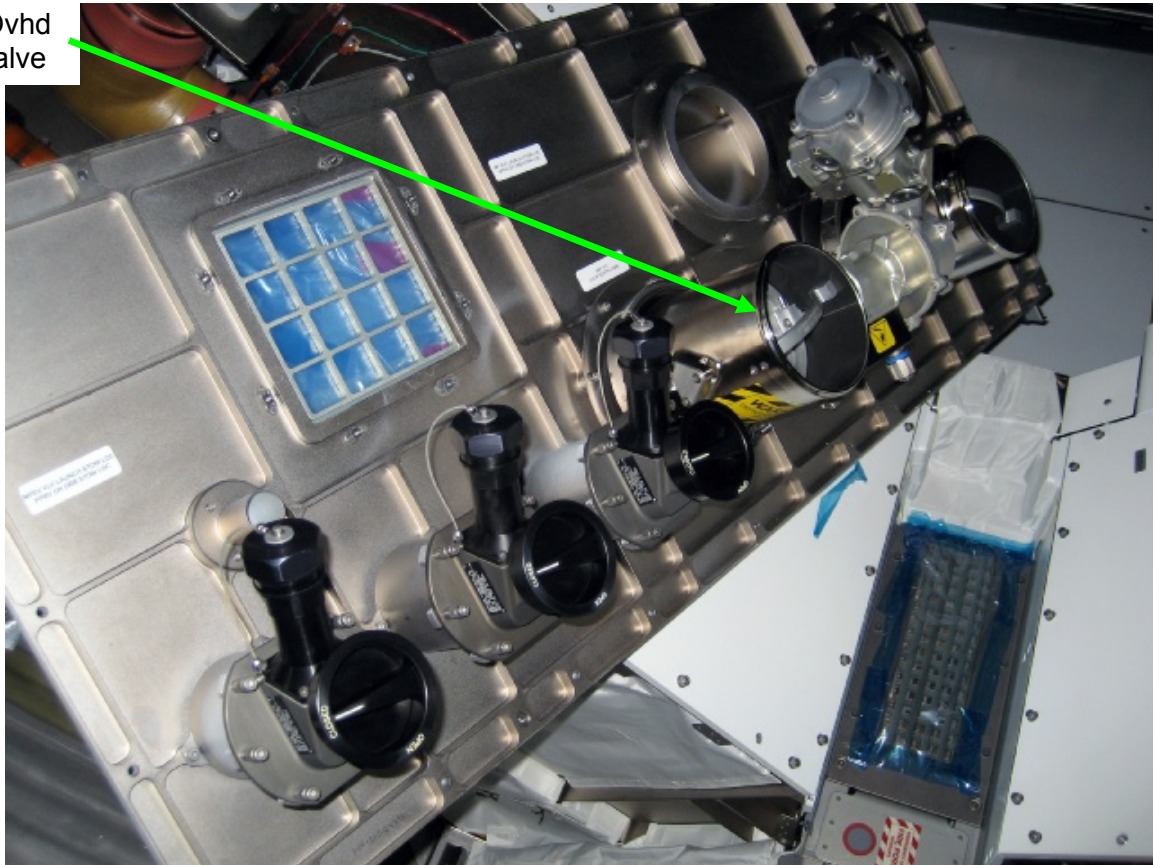

Figure 5. - Node 3 Forward Midbay Stowage Location for IMV Valves.
Refer to Table 2, Figure 5.
- 4.2 Stow NPRV on rear side of NOD3F3-02 closeout panel and replace V-Band Clamp. Snug V-Band Clamp. (Ratchet, 1/4" Drive; 4" Ext, 1/4" Drive; 7/16" Deep Socket, 1/4" Drive). Refer to Table 2, Figure 5.